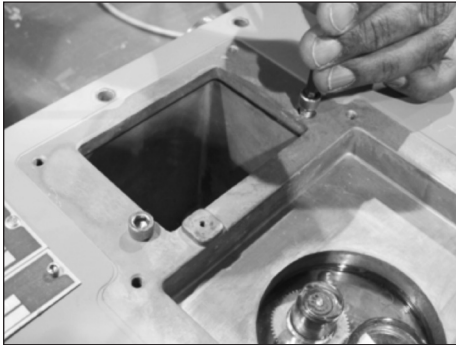

Figure 9.33 - Remove two (1/4"-20) screws
3. Use a 3/16 Allen wrench to remove the two remaining (1/4"-20) screws near the battery compartment as shown in Figure 9.33.